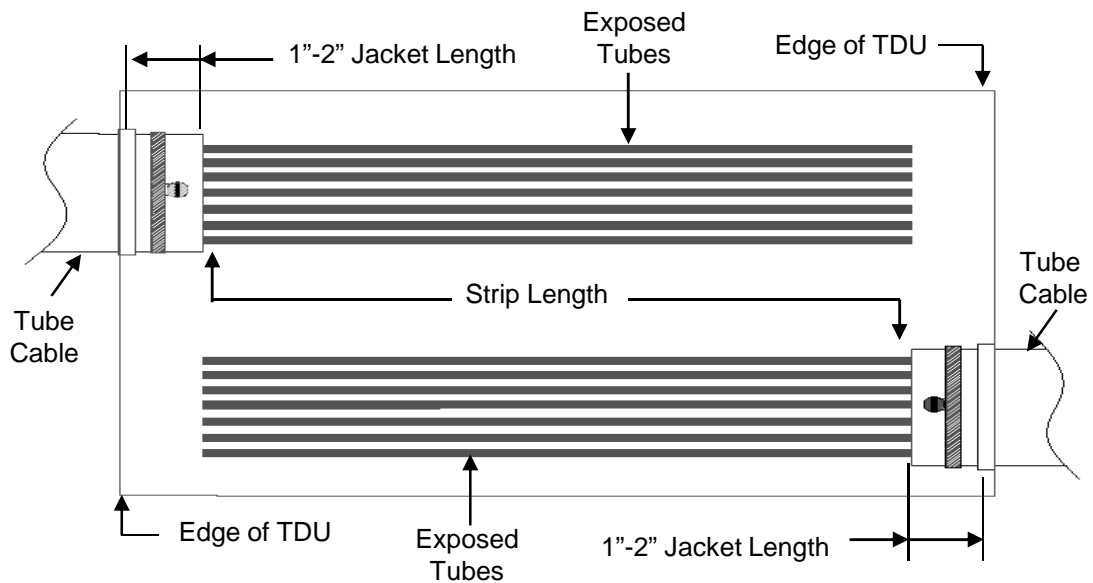

Figure 5
8.2 Route tube cable into TDU and mark outer jacket to leave about 1"-2" of jacket length inside TDU. **See Fig. 5.**